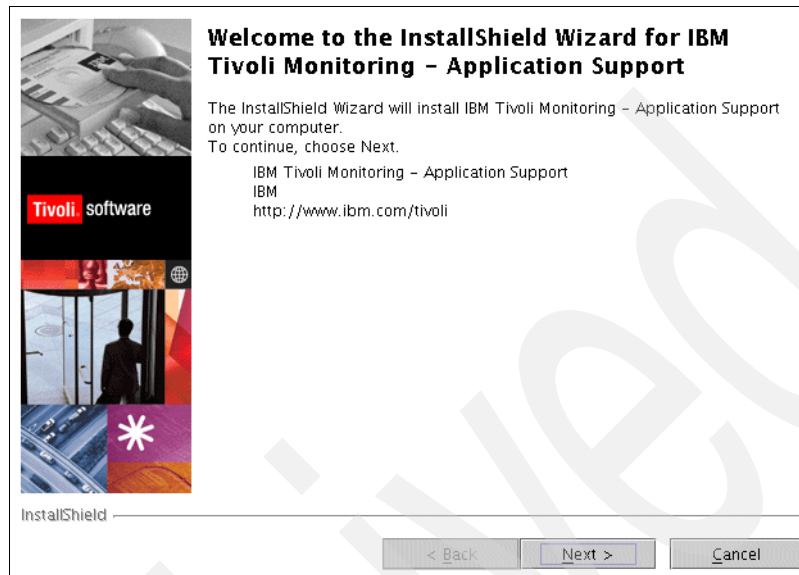

Figure 3-57 Welcome window
1. The first dialog shows the welcome window (Figure 3-57). Click **Next** to proceed.